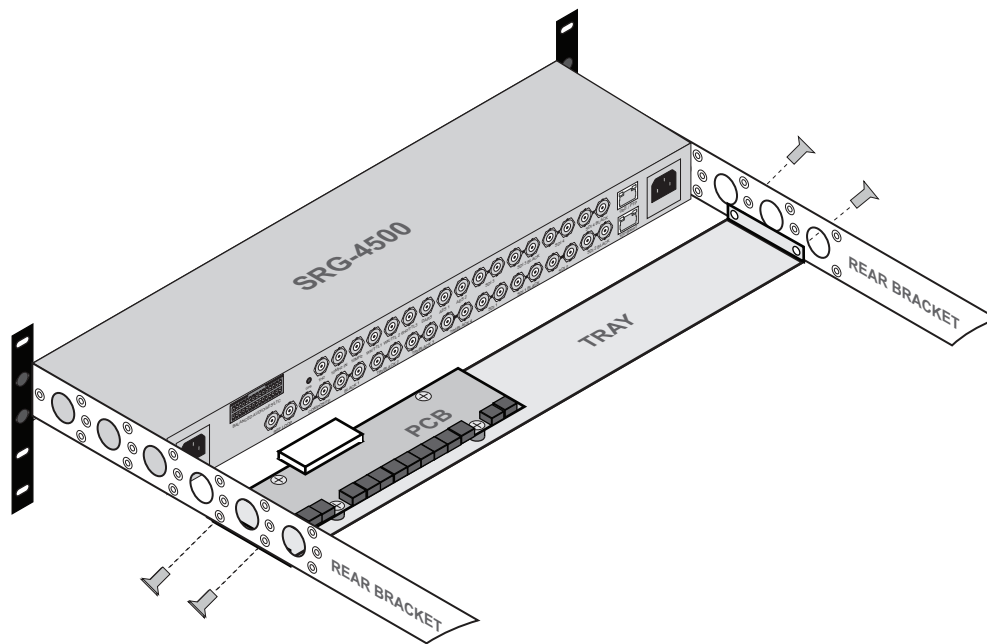

Figure 50 Installing the Breakout PCB and Tray to the Rear Brackets
1. Position the Breakout PCB and Tray behind the SRG-4500 in the rack frame (**Figure 50**) while ensuring to:
2. Use the 4 provided M3 5mm screws to affix the Breakout PCB and Tray to the Rear Brackets of the SRG-4500. Refer to **Figure 50**.